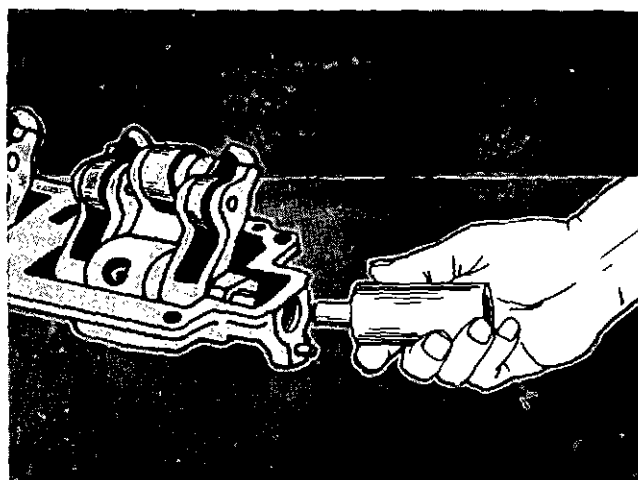

Fig. 4-28. Use The 3376185 Tool To Adjust The Shaft.
7. Position the shaft so that the end opposite the actuator gear is at a depth of 0.996 to 1.000 inch [25.30 to 25.40 mm] from the end of the housing. Use the 3376185 Tool to adjust the shaft to the correct dimension, Fig. 4-28.